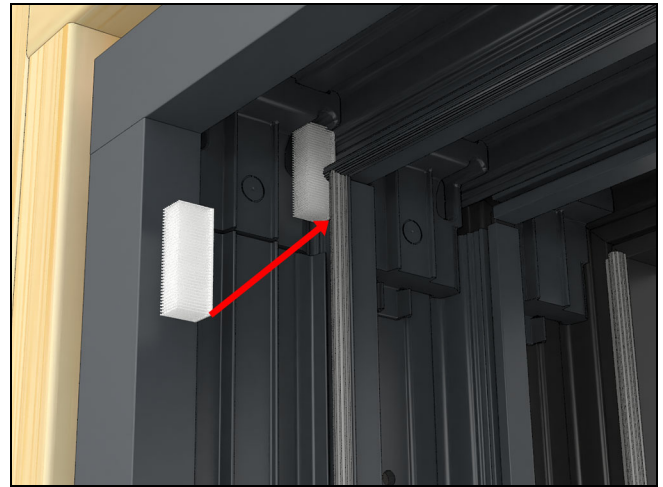

Figure 71
11. On uni-directional locking jambs, apply a dust block at the top of the interior track behind the bulb weather strip. Position the block so it is centered between the joint on the head jamb and jamb weather strips. See Figure 71.